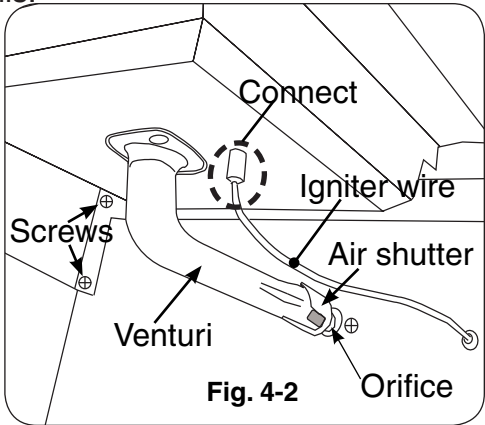

Fig. 4-2
Align the four (4) holes in the shelf with the four (4) holes in the side of the cart while aligning and engaging the burner venturi with the orifice (Fig. 4-2). Insert the four (4) screws (provided) into the holes and tighten. Make the igniter wire connection as shown in Fig. 4-2. Open sideburner lid, set cap on burner, and set grid into shelf.